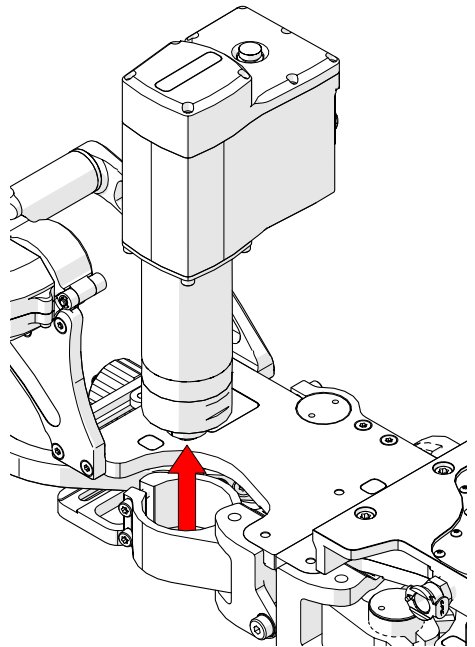

Fig. 189 - Remove motor can
2. Remove the motor can (*Fig. 189*).